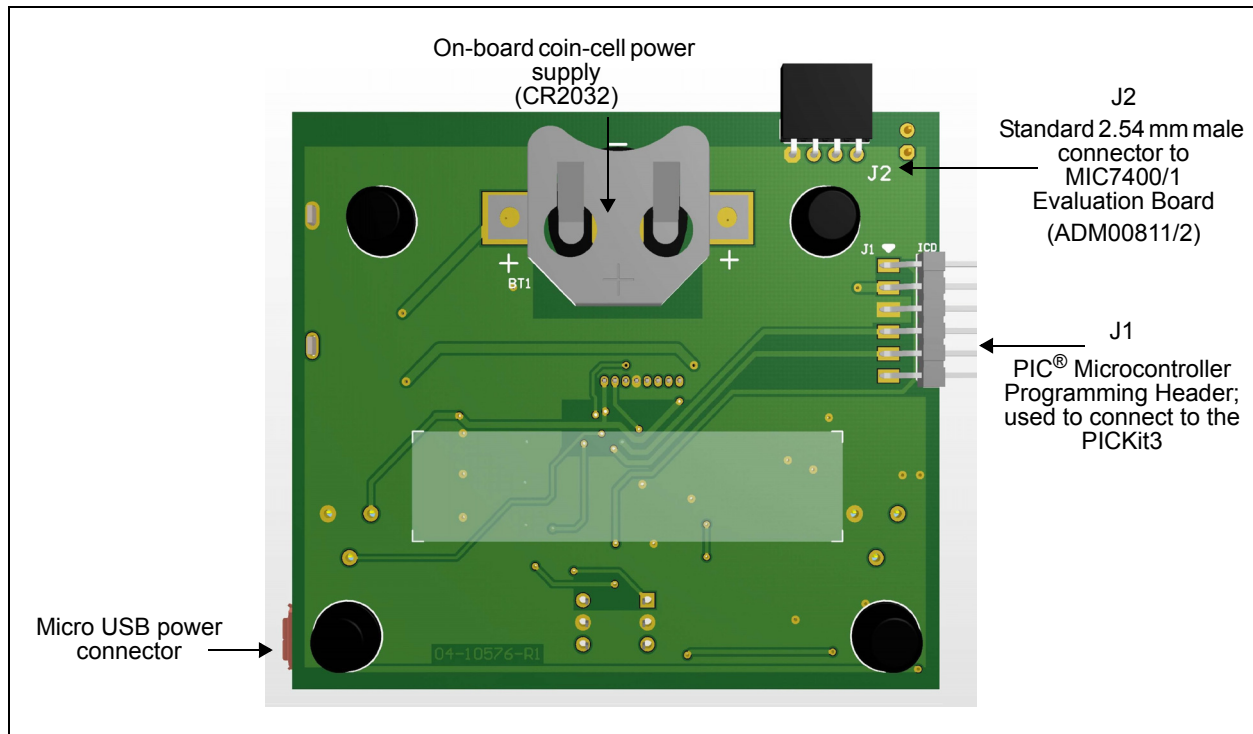

FIGURE 2-2: MIC7400/1 Programming Board Bottom View – Connectors.
Converter is used to create a regulated 5V supply for MIC7400/1 Programming Board. It boosts the coin-cell voltage (3V nominal) to the 5V needed by the LCD, EEPROM and the microcontroller. This voltage is also available on the J2 (if a jumper is placed on J7) connector (see Figure 2-2).
- connect the MIC7400/1 Programming Board to the desired MIC7400/1 via J2 connector (refer to Figure 2-2)
- connect a MIC7400/1 to the MIC7400/1 Programming Board via J2 connector (refer to Figure 2-2).
- connect a MIC7400/1 device to the MIC7400/1 Programming Board via J2 connector (refer to Figure 2-2)